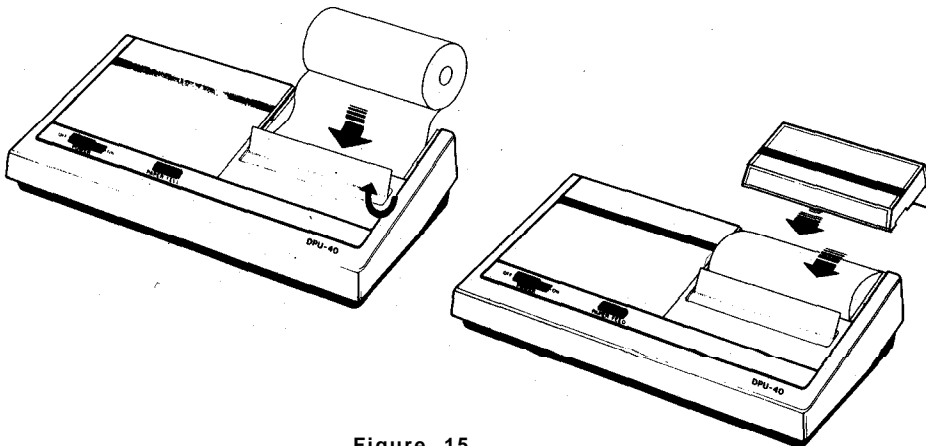

Figure 15
d. While inserting the end of the paper, press the Paper Feed Switch (5) until the paper is fed out. Replace protective paper cover. (see Fig. 15)
(3) While inserting the end of the heat sensitive roll paper in the direction of the arrow, press and hold the paper feed switch until the paper is fed out. Since the outside of the heat sensitive roll paper is coated with a heat sensitive agent, pay careful attention to the front and back of the paper.